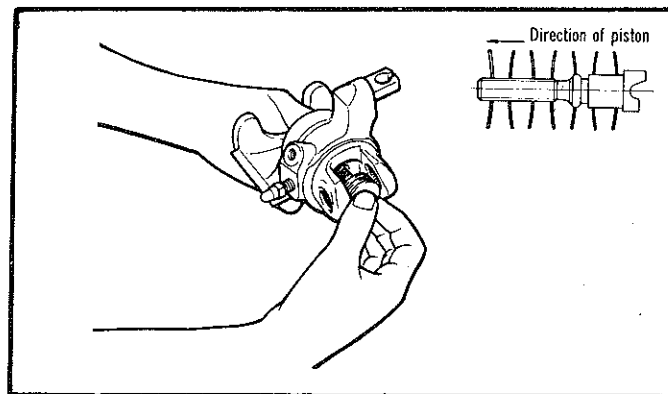

Fig. 14—Installing automatic adjuster spindle
(4) Lubricate the automatic adjuster seal and spindle thrust with the red translucent rubber grease.
(5) Assemble the automatic adjuster spindle spring washers as shown in Fig. 14 and lubricate them with the orange grease supplied in the repair kit.
(6) Install the spindle into the caliper; it is correctly installed when it rotates freely.